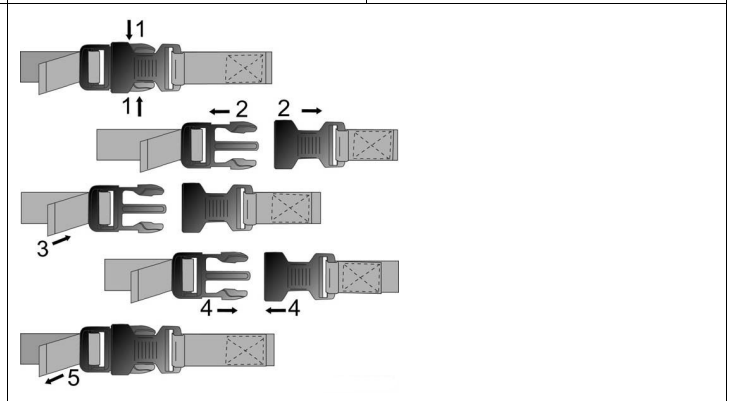

Fig. 9
4. Tighten the backrest bands, see Fig. 9.